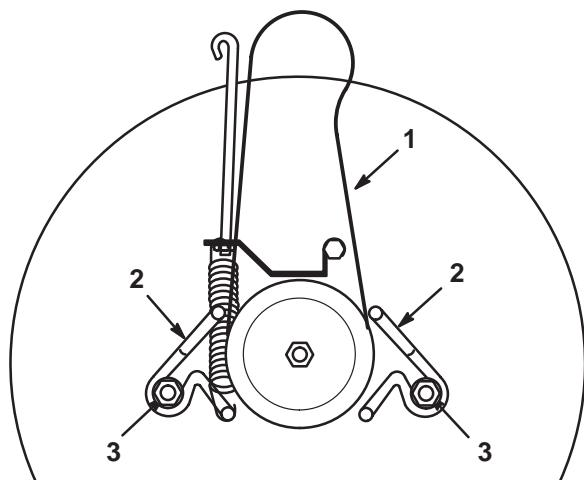

Figure 43
2. Loosen the belt guide mounting bolts and move the belt guides away from the pulley (Fig. 43).
1. Install the new blade drive belt around the blade pulley and inside both of the belt guides (Fig. 43).
2. Adjust the belt guides so they are 1/8 in. (3 mm) away from the pulley. Tighten the mounting bolts (Fig. 43).